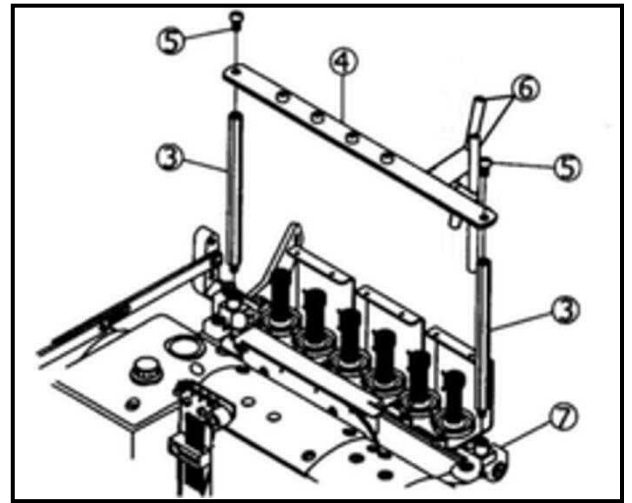

Fig.12
将线架支柱③安装线上架固定座⑦，再将过线架④用螺钉⑤锁紧线上架支柱③上，调整过线杆⑥，使穿线平顺，不会发生纠缠。(Fig.12)
Adjust the thread pipes⑥ to thread smoothly without entangling. (Fig. 12)